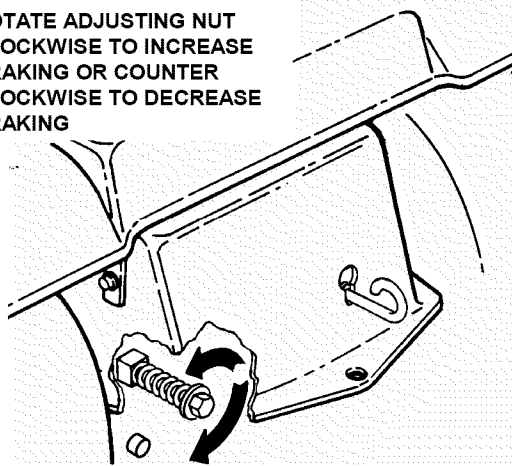

FIGURE 4.8
4. Locate brake adjustment nut underneath the rear of tractor. See Figure 4.8.